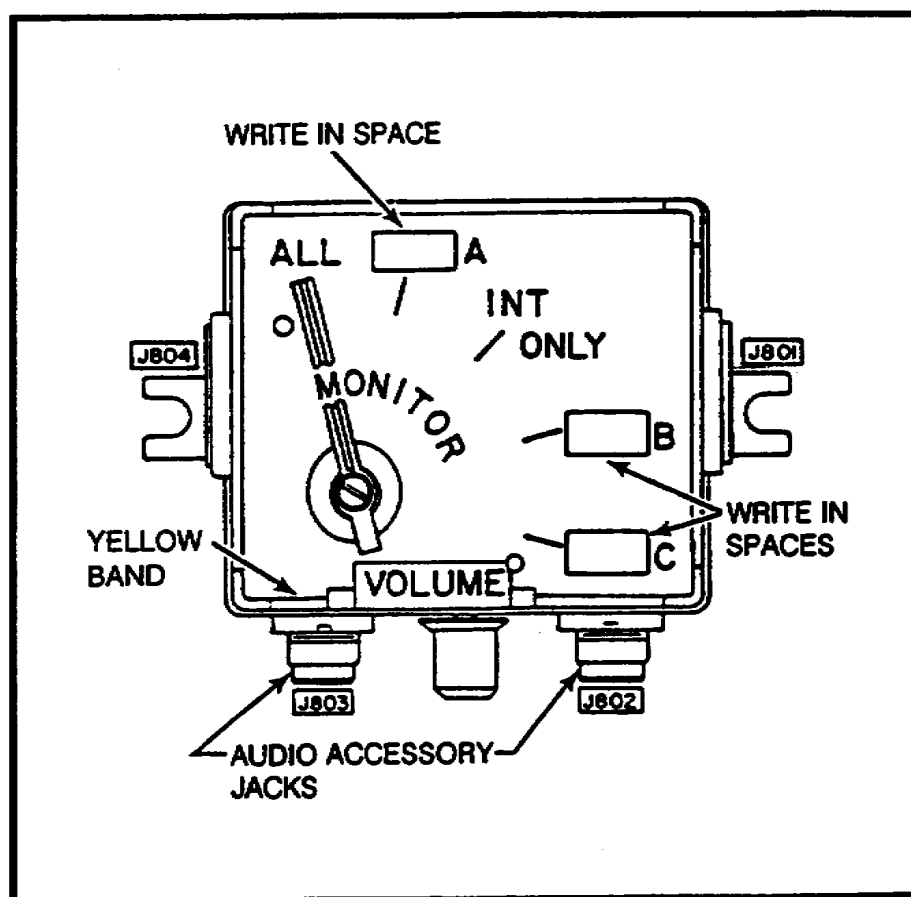

Figure 3. C-2298 jacks and controls.
g. See Figure 3. The C-2298/VRC is a control device (box) located at each crew member position. The C-2298 amplifies the voice signals from the microphone and controls the volume to the audio accessory earphone(s). The two jacks J802 and J803, located on the bottom of the C-2298, provide a connection for the audio accessory. The two jacks J801 and J804, located on the left and right sides of the C-2298, provide a connecting point for the interconnecting cable CX-4723 from the AM-1780 and for connecting an additional C-2298 in tandem. A volume control is located between jacks J802 and J803. The MONITOR switch is located on the face (front) of the C-2298.